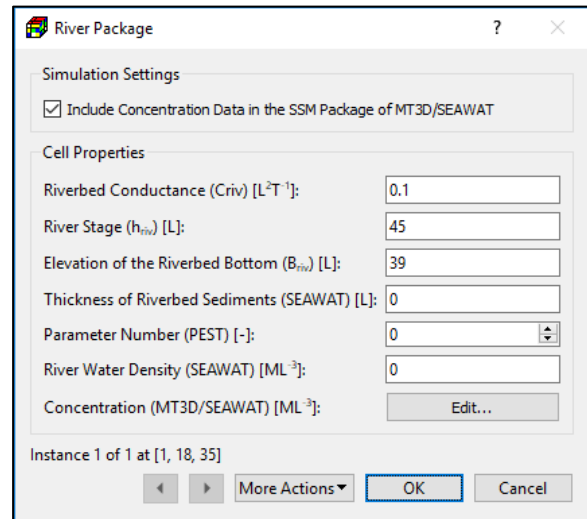

Figure 74. The River Package dialog box for specifying cell properties
2. **Cell-by-cell input method:** Figure 74 shows the dialog box for specifying one or more reaches to a model cell. For each reach, the following properties need to be assigned.